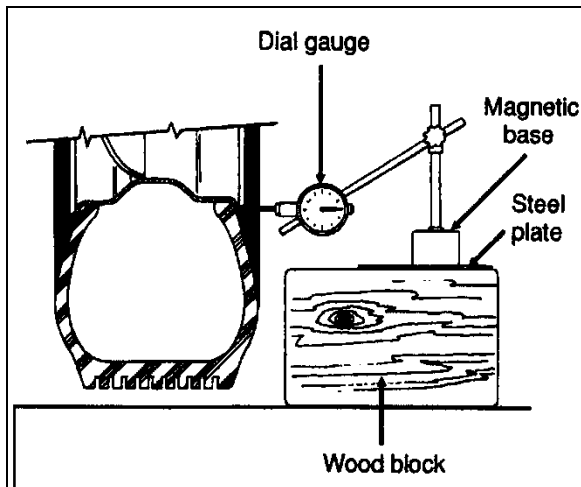

FIGURE 3: DIAL GAUGE INSTALLATION 13008
- Check wheel lateral run-out. Install a dial gauge as shown in Figure 3, then rotate the wheel by hand one full turn. As the wheel turns, note any variation on the dial gauge;